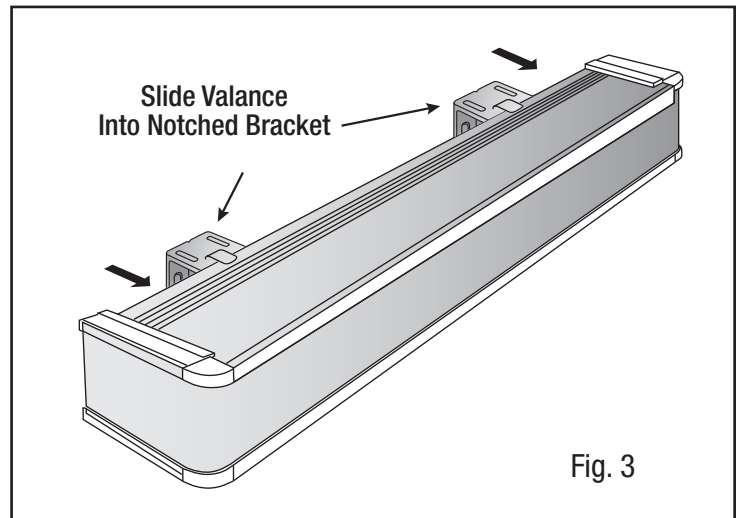

Fig. 3
See Fig. 3.
2. Chain should be placed on either end of the chain guide. Place chain guide cover in place and install the 2 screws supplied. Lug should be facing downward. *See Figure 3.*